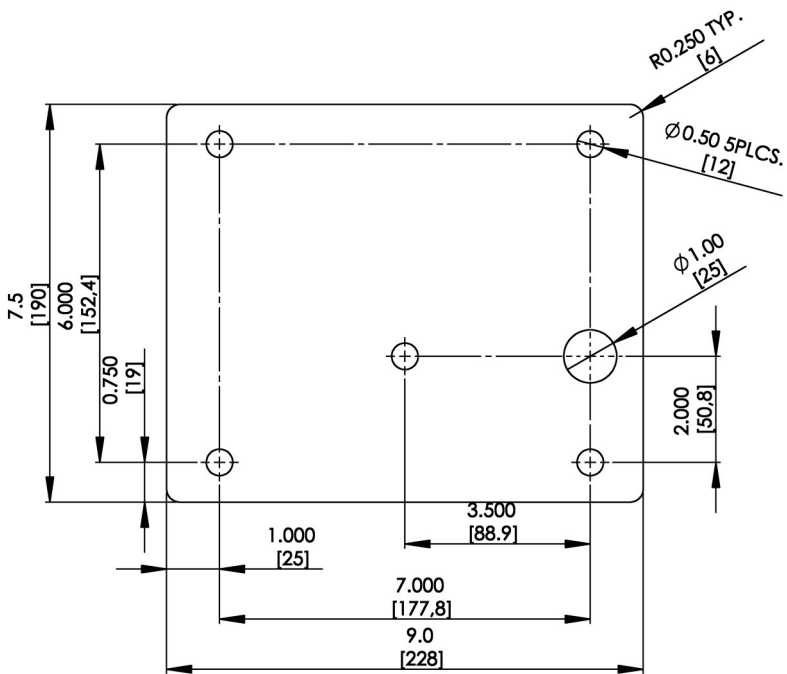

Figure 25: Contractor supplied mounting plate (dimensions are inches [mm]).
- Figure 25 shows an example of a mounting plate (not included), of minimum thickness 3/16", which can be used to mount the wall mount. The attachment method (screws), number of screws, and location of the screws will vary depending on the type and structure of the wall, therefore it is not shown.